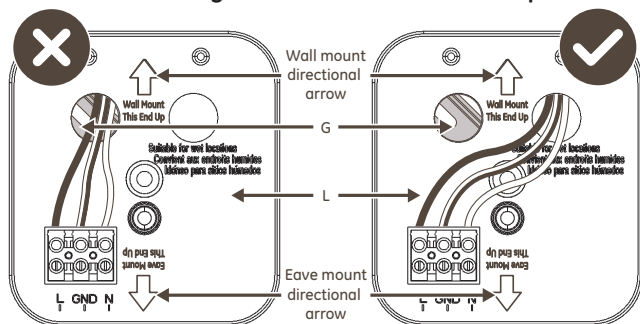

Figure 3
- Firmly pull on the mounting bracket (G) to ensure it is securely attached to the junction box. If necessary, use the screws that were removed from the existing light fixture to secure the mounting bracket (G).
- The back mounting plate (L) has pre-installed Line (black), Neutral (white) and Ground (green/yellow) wires with Push-in quick wire connectors (M).
- Observe the directional arrow on the back mounting plate (L) for the selected wall or eave mount installation (see Figure 3).
- Temporarily position the back mounting plate (L) with the selected installation Wall Mount or Eave Mount arrow in the indicated direction to determine the best hole in the back mounting plate (L) to route the wires to avoid contact with the installed mounting bracket (G) (see **Figure 3**). **DO NOT screw into place.**
- Pull the back mounting plate (L) away from the mounting bracket (G).
- If the wires did not pass through the hole in the back mounting plate (L) without contacting the mounting bracket (G), carefully pull the wires with Push-in quick wire connectors (M) through the back mounting plate (L) hole and insert through the other provided hole in the back mounting plate (L) (see **Figure 3**).
- b. Prior to making the electrical connections, ensure the previous **Step 7** is complete to route the electrical wires to avoid the mounting bracket (G) and route through the gasket (H) (see **Figure 3**).